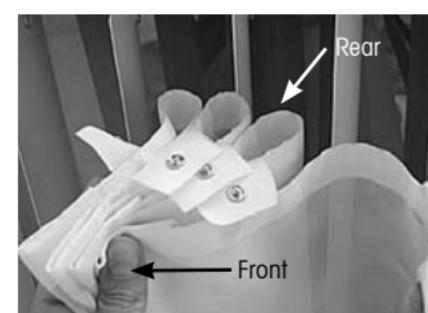

Figure B1
2. The drapery pockets are located on the front of the drapery. The folds which join each pocket are located at the rear of the treatment and will be placed closest to the window. (See Figure B1) Note that each fold is joined with a plastic connector.